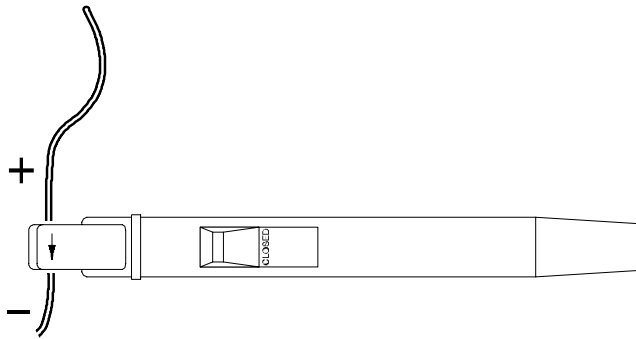

Figure 4: Polarity of Current Flow
3. Close and lock the probe jaw over the conductor. Conventional current flows from positive to negative. For the correct polarity reading, connect the probe so that the current flow, from positive to negative, is aligned with the arrow on the probe jaw (see Figure 4).